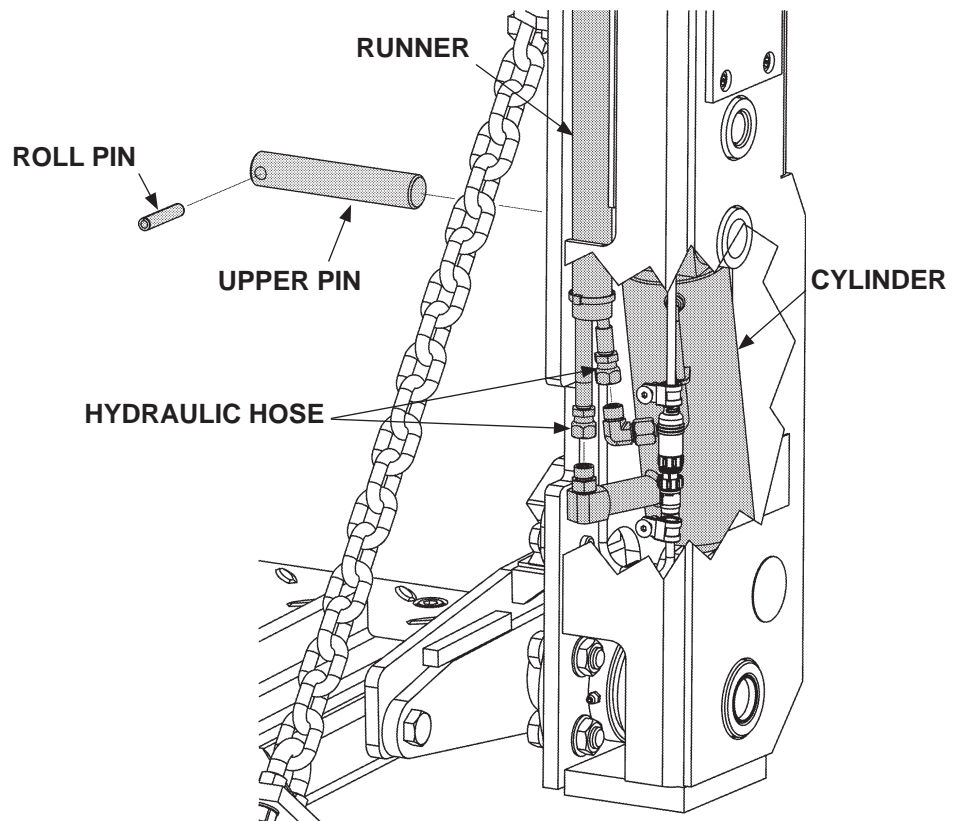

FIG. 20-2
2. Disconnect the hydraulic hoses from lower end of cylinder (FIG. 20-2). Plug hoses to prevent spills.
3. Remove the upper roll pin (FIG. 20-2) from the runner and then remove the upper pin.
7. Install upper pin (**FIG. 20-2**) and roll pin in upper end of cylinder and runner.
9. Reconnect hydraulic hose to cylinder (**FIG. 20-2**).